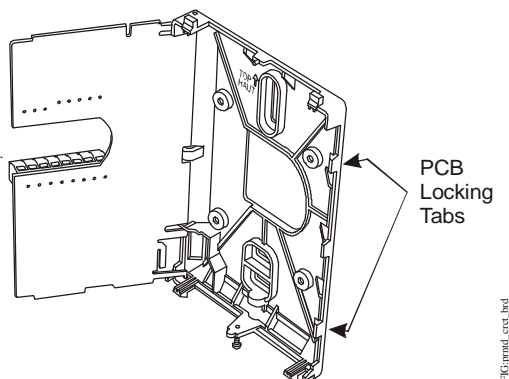

Figure 2: Opening the Thermostat Controller PCB
3. Carefully pull the locking tabs on the right side of the thermostat controller mounting base and unlock the PCB. Open the PCB to the left as illustrated in Figure 2.